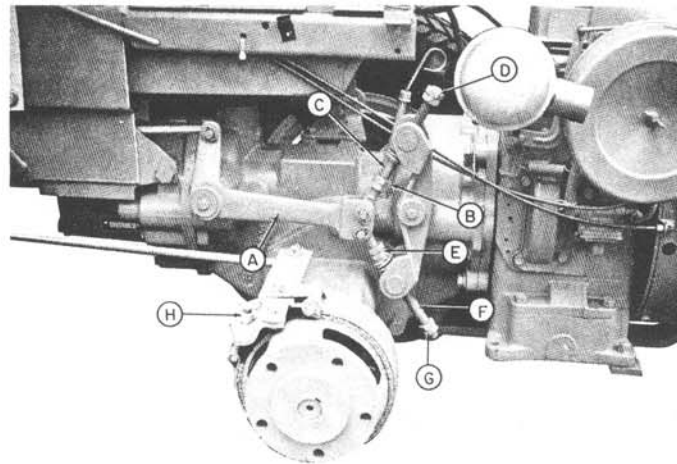

Figure 62
The brakes are adjusted by tightening or loosening the nut (H, Figure 62) of the brake band assembly on the brake support. Do not overtighten as dragging brake bands will rob power and cause rapid wear of the brake linings. **To adjust:** tighten the nut until the bands are dragging, then loosen ½ turn.
Move the jam nuts (G, Figure 62) closer to the clutch lever for a more sensitive adjustment or closer to the end of the clutch rod (F) for a less sensitive adjustment. Adjust the jam nuts (B) so when the level is in the high or (2) position, there is approximately .010 inch gap between the coils of the spring.
Move the jam nuts (D, Figure 62) closer to the clutch lever for a more sensitive adjustment or closer to the end of the clutch rod (C) for a less sensitive adjustment. Adjust the jam nuts (E) so that when the lever is in the low or (1) position, there is approximately .010 inch gap between the coils of the spring.